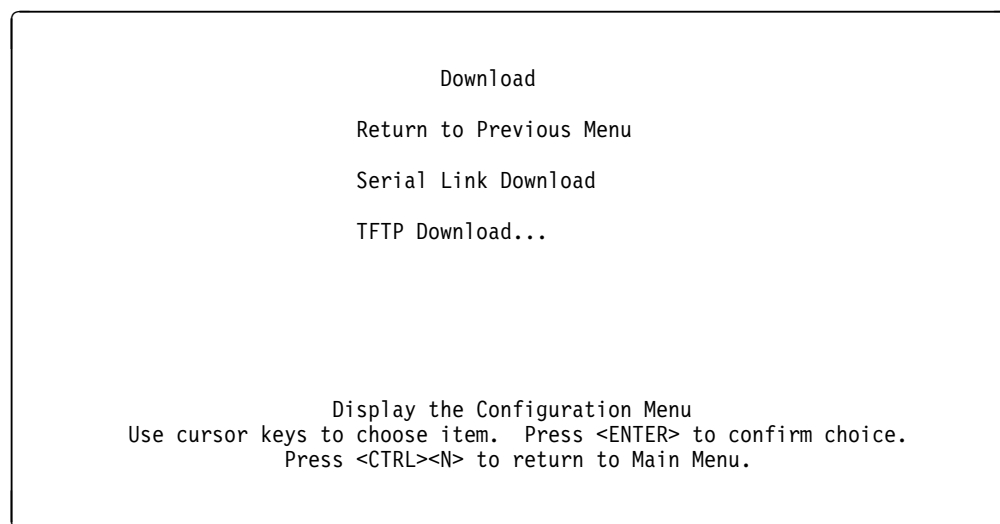

Figure 7-1. Download Menu
- Step 5.** When the Download Menu appears (see Figure 7-1), select Serial Link Download or TFTP Download.